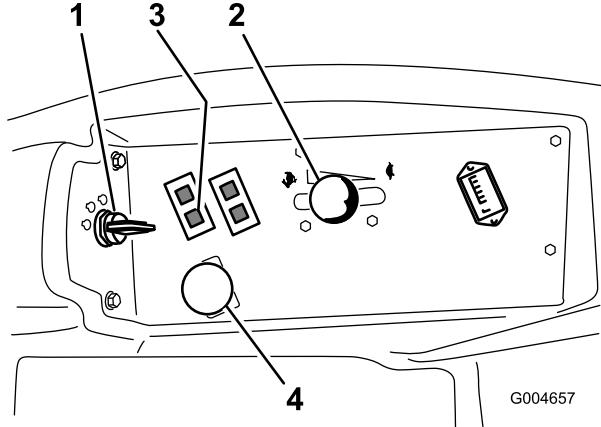

Figure 44
4. Move the PTO (power take off) switch to the off position (Figure 44).
5. Move the throttle lever midway between the Fast and Slow positions (Figure 44).